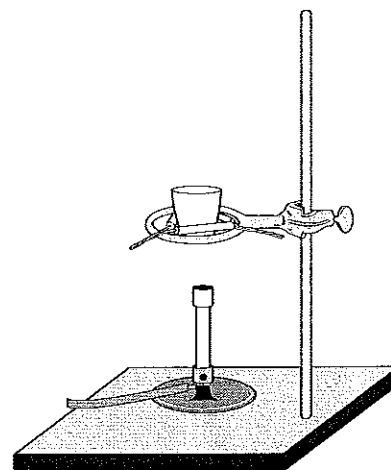

Figure 1.
2. Set up a Bunsen burner on a ring stand beneath a ring clamp holding a clay pipe stem triangle. Place the crucible in the clay triangle (see Figure 1). Do NOT light the Bunsen burner.